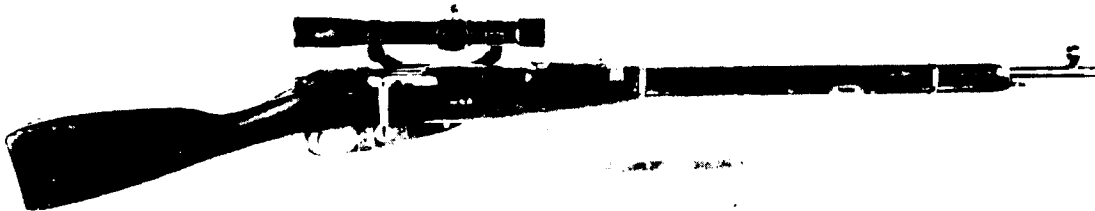

FIGURE 4. 7.62-MM SNIPER RIFLE M1891/30.
d. The sniper rifle M1891/30 (fig. 4), which is basically the M1891/30 adapted for use with a telescope, is a standard weapon in Soviet and satellite armies. The telescopes employed are somewhat similar to those used on United States hunting rifles.